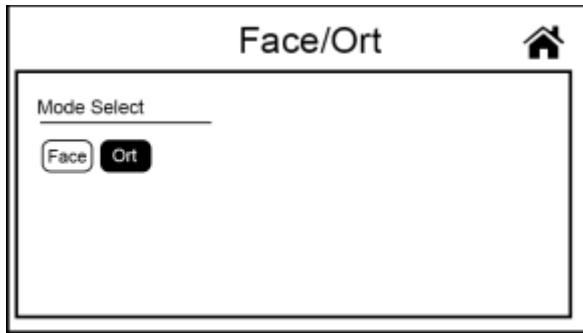
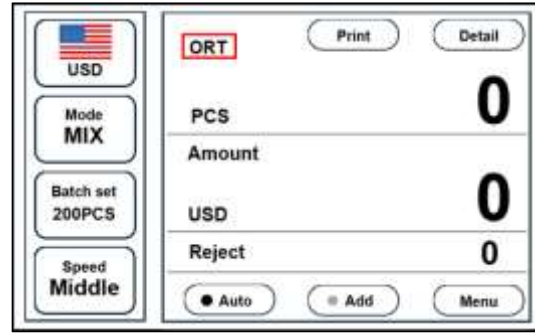

Figure 68
Figure 69
5) When clicking on the “Ort” button, the bottom color of the button changes to blue, as in Figure 68. Touch the “” key on the upper right corner of the screen to return to the previous interface. The upper area of the main interface displays the “ORT” information, as shown in Figure 69. At this time, when the banknotes are counted, the machine will take the orientation of the first banknote as the standard, and the banknotes with different orientations will be kicked into the reject pocket.